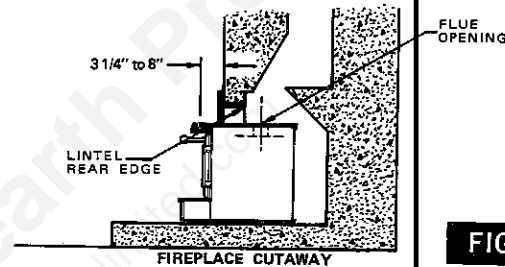

FIG. 5
## IMPORTANT: (Fig. 5)
The distance from the fireplace front surface to the front edge of the insert top must be within the dimensions shown. Make sure the flue opening on the fireplace insert completely clears the lintel of the fireplace. This will insure a proper draft. (See Fig. 5).
After the fireplace hearth has been leveled, the Fireplace Insert should be slid into position. Carefully check to see that the flue opening in the Fireplace Insert is unobstructed and that the smoke leaving the Insert can rise directly into the fireplace chimney. (See Fig. 5)
1. Slide the Fireplace Insert into the fireplace to the depth desired within the limits of installation. (See Fig. 5)